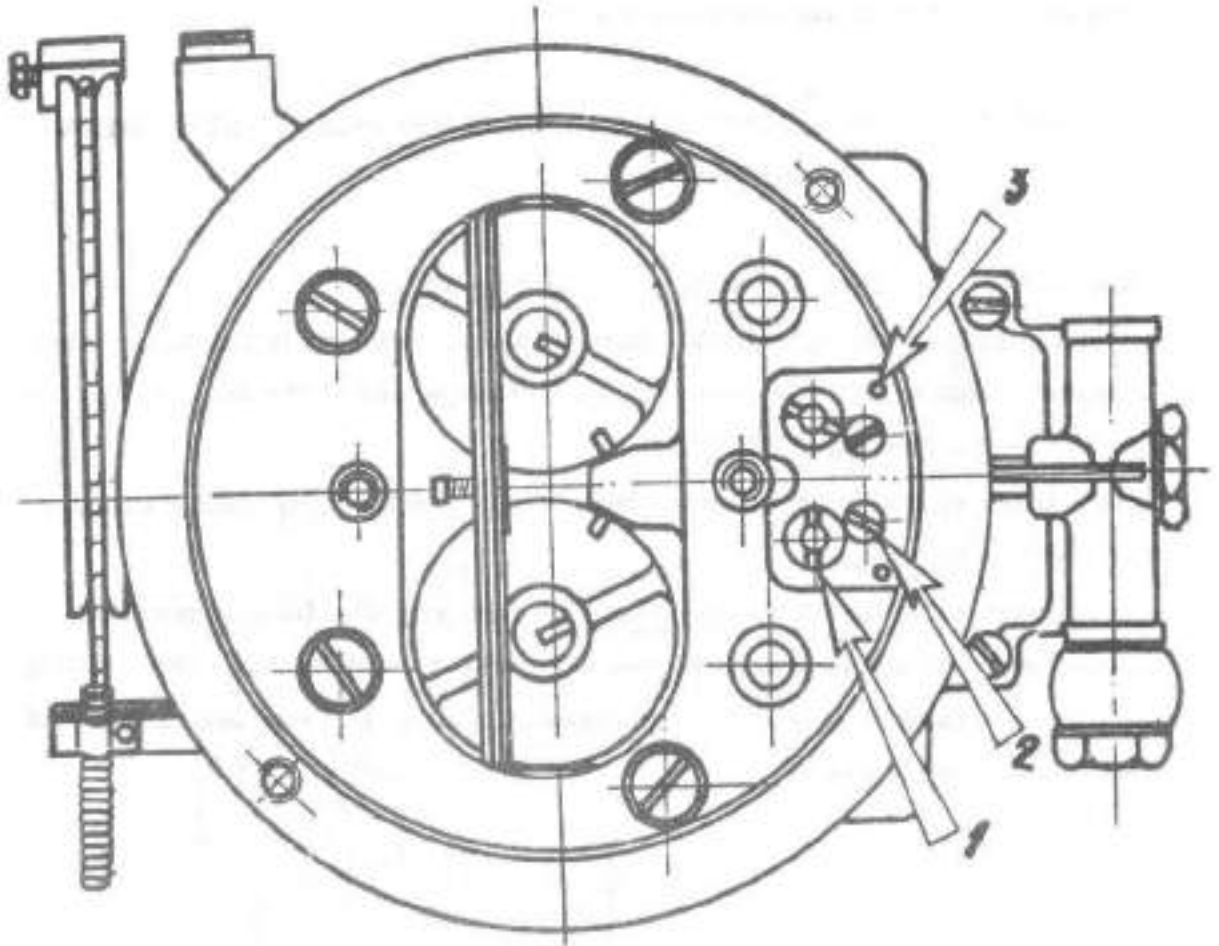

Fig. 2.23. ACCESS TO CARBURETTOR JETS
For cleaning carburettor main and idle jets it should be removed air connection elbow (adapter), which is connected with air cleaner. So you will get access to the main and idle jets, (1) and (2) - fig. 2.23.
Under the air connection elbow, in the feeding socket area, there are the two main and the two idle jets. (see fig.2.23).